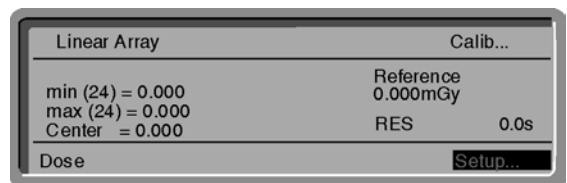

Figure 3-5: Cursor on "Setup..."
- Position the cursor with ▲ and ▼ on "Setup..." (Figure 3-5) and press ENT.